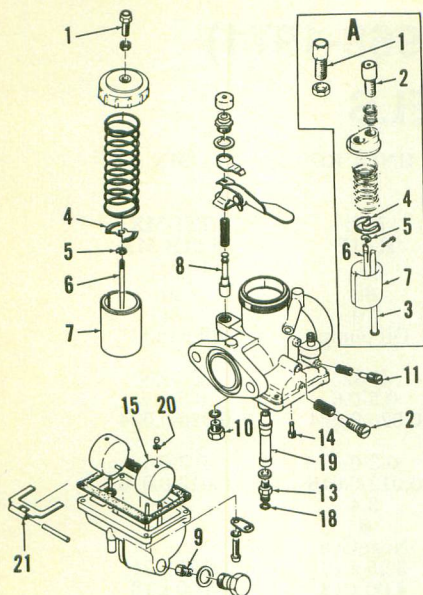

Fig. Y9-4—Exploded view of carburetor. Inset (A) is idle speed adjustment used on early DT-1 units.
CARBURETOR All models are equipped with a Mikuni sliding valve type carburetor. Refer to Fig. Y9-4 and the following recommended jetting specifications:
*Some RT-1 models were equipped with a 6 CL 1 jet needle to smooth engine performance. If this needle is used a #230-#240 main jet is recommended and pilot air screw (11—Fig. Y9-4) should be 1 1/4 turns out.